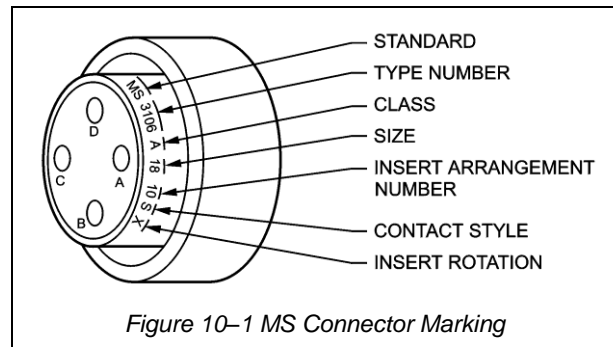

Figure 10-1 MS Connector Marking
8. Each connector is marked on the shell or coupling ring with a code of letters and numbers giving all the information necessary to identify the connector (see Figure 10-1).